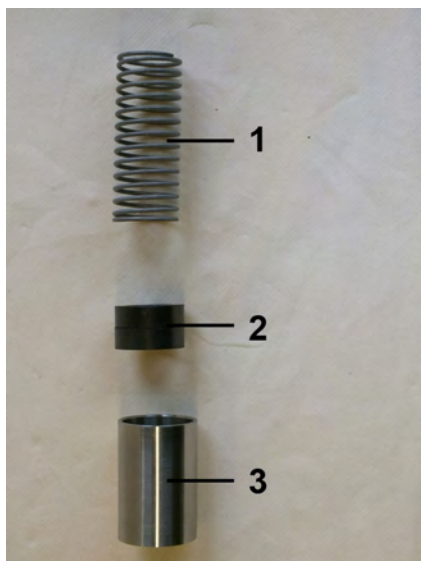

Fig. 40: Inner parts
1. ➤ Insert spring (Fig. 40/1) with magnets (Fig. 40/2) into the float, (Fig. 40/3) ensuring proper magnetic pole orientation (north pole toward device outlet)